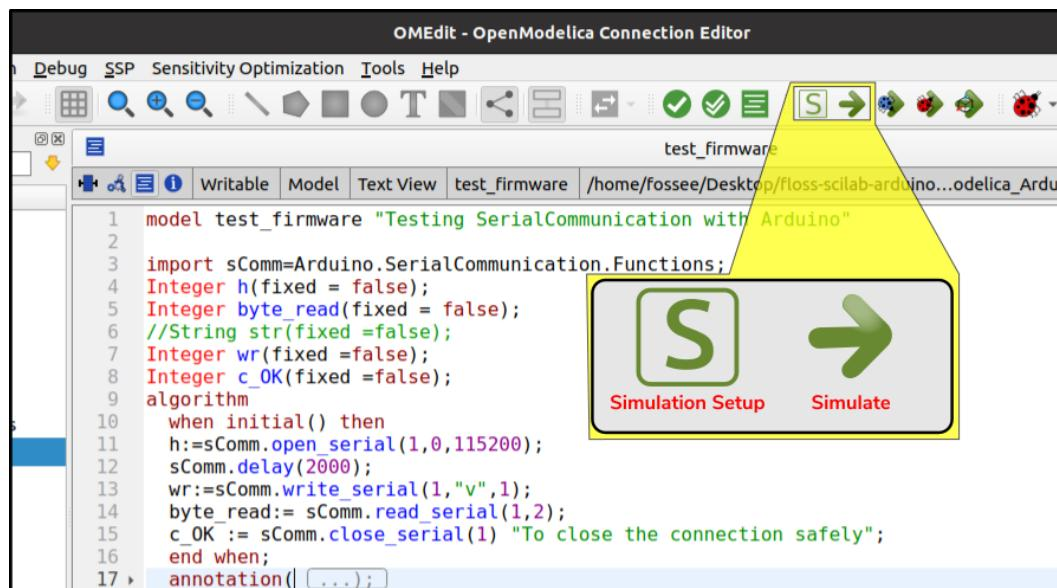
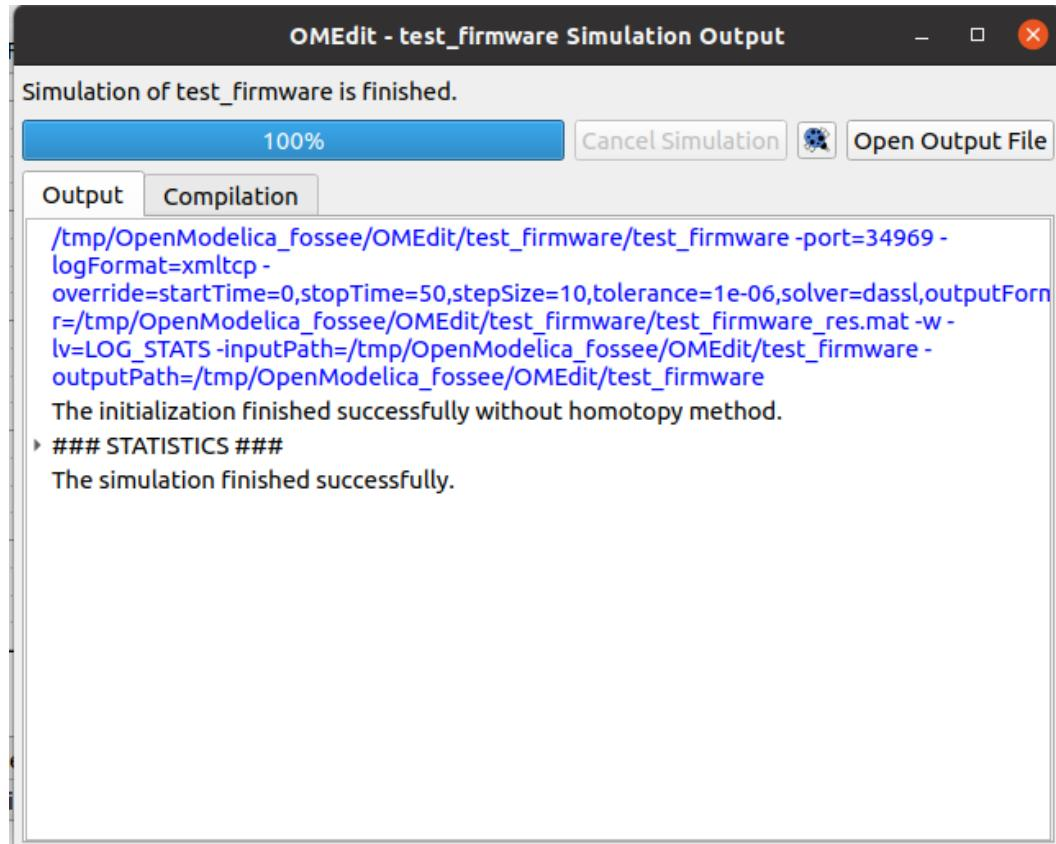

Figure 3.42: Simulating a model in OMEdit
Figure 3.43: Output window of OMEedit
Now, we will see how to simulate this model. For this, we need to ensure that OMEdit is in Modeling Perspective. Next, we will click on the green right-sided arrow, named as Simulate, as shown in Fig. 3.42. When we click on Simulate, OMEdit will first compile the model and then, it will simulate the model for the time specified in the model itself. As OMEdit provides an elegant user interface for simulating the models, it will open an output window the moment you click on Simulate. Fig. 3.43 shows the output window after the simulation of our model is finished. Also, we can observe that the OMEdit is now in Plotting Perspective.
As shown in Fig. 3.43, OMEdit displays the message that "The Simulation fin-
**OpenModelica Code 3.1** An OpenModelica code/model to check whether the firmware is properly installed or not. Available at Origin/user-code/led/OpenModelica/test\\_firmware.mo, see Footnote 2 on page 2. Locate this file inside OpenModelica-Arduino toolbox, as explained in Sec. 3.6.4. Simulate this code/model by following the steps given in Sec. 3.6.3. If the simulation is successful, you should expect an output window in OMEdit as shown in Fig. 3.43.